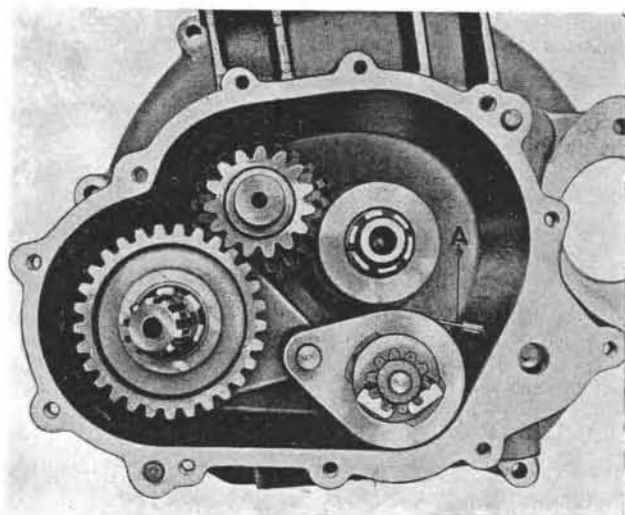

Fig. 81
- neutral indicator unit (see A on Fig. 81).